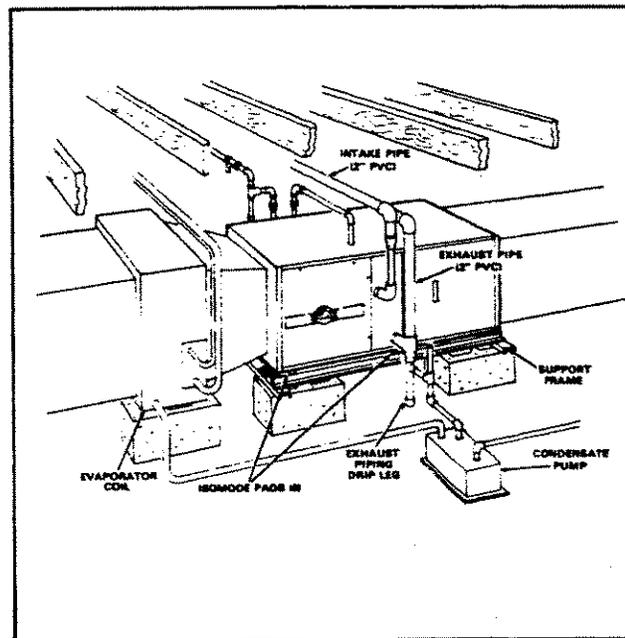

FIGURE 11
- 3 - Install exhaust and intake piping according to information given in following section. Condensate line should be run into condensate pump as shown in figure 11.